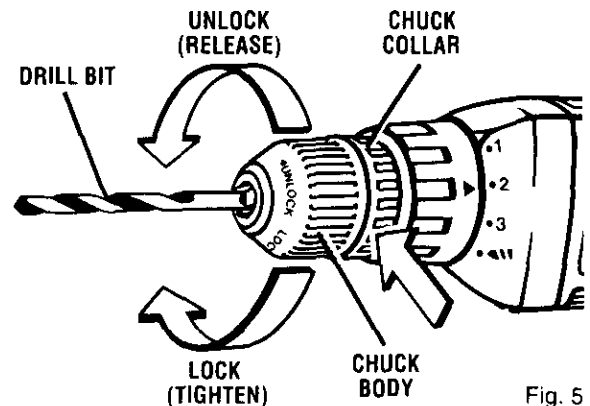

Fig. 5
See Figure 5.
Note: Rotate the chuck body in the direction of the arrow marked **LOCK** to tighten chuck jaws. See Figure 5.
- To loosen: grasp and hold the collar of the chuck with one hand, while rotating chuck body with your other hand. **Note:** Rotate chuck body in the direction of the arrow marked **UNLOCK** to loosen chuck jaws. See Figure 5.